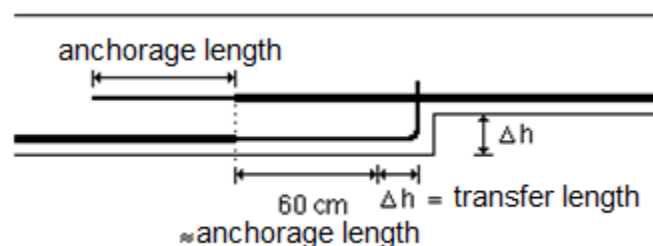

Figure 34 : Reinforcement – anchorage and transfer length
2) The reinforcement sections are determined by also taking the fact into account that bars, which work at the bottom of the bigger beam section, only become effective after acquiring a certain length. This length is determined by the anchorage length increased with the transfer length needed to transfer forces from one bar level to the other (Figure 34). The program takes as anchorage length a constant value of 60 cm because we have not yet determined bar diameters. In the zone with length equal to the transfer length plus 60 cm, ConCrete assumes for the determination of the required mm^2 reinforcement that the working section varies linear.